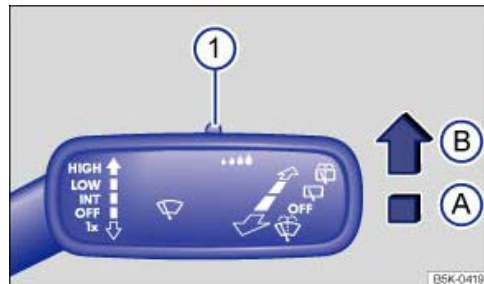

Fig. 113 On the windscreen wiper lever on the steering column, right: setting the rain/light sensor
The sensitivity of the rain/light sensor can be adjusted manually using the switch in the wiper lever → Fig. 113 ① → .